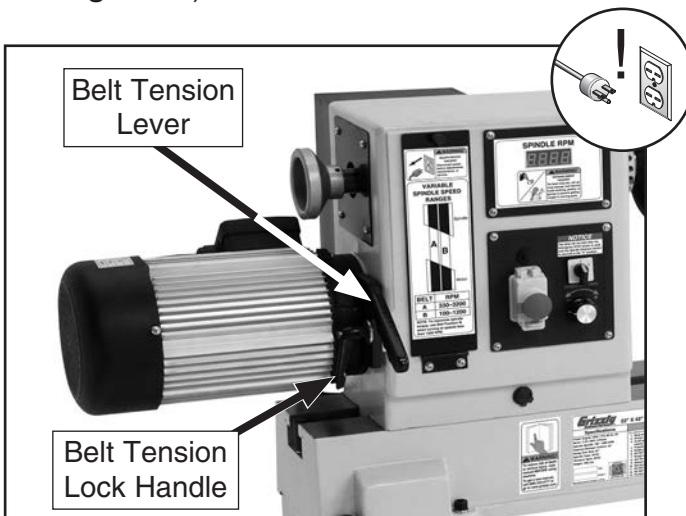

Figure 57. Location of belt tension lever and belt tension lock handle.
3. Loosen belt tension lock handle (see **Figure 57**).
4. Use belt tension lever (see **Figure 57**) to lift motor assembly all the way up, then re-tighten motor tension lock handle—this will hold motor in place while you change belt position.